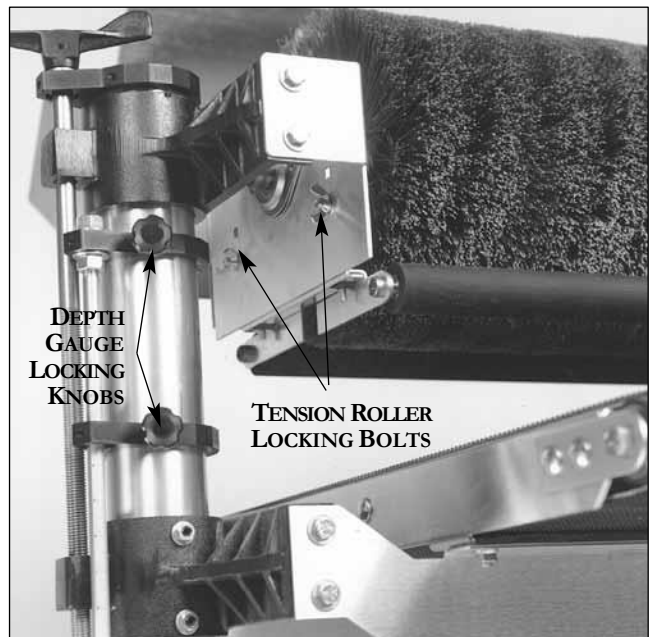

Fig. 11. Tension roller and depth gauge adjustment.
2. Set tension rollers to type of stock being sanded (See Tension Roller Adjustment below and Fig. 11)
Spring loaded infeed and outfeed Tension Rollers (Fig. 11) are provided to maintain downward pressure on stock being sanded and to prevent slippage of the stock on the feed conveyor. When properly set, the Tension Rollers should engage or raise up about 1/8" to accommodate the stock being brushed.
Flat Surfaced Stock: Set the bottom of the tension rollers even with the bottom of the brush. Loosen the four Tension Roller locking knobs (Fig. 11). Raise the table to the "0" mark on the Depth Gauge. At this position, the brush and Tension Rollers are resting on the table surface. Lock all four Tension Roller knobs. For example, to brush a 3/4" thick flat board, lower the table to 5/8" on the Depth Gauge. This allows 1/8" for Tension Roller engagement and 1/8" brush penetration.
Contoured Surface Stock: (Example: A 3/4" thick piece of molding with 3/8" of molding relief.) Loosen all four tension roller locking bolts (Fig. 11). Adjust the conveyor table 1/4" into the bristle tips (measure with a ruler from "0" mark on depth gauge.). At this position, the tension rollers are resting on the table surface and are positioned 1/4" above the bottom of the brush. Lock all four Tension Roller locking bolts. To brush the piece, lower the table to the 3/8" position on the Depth Gauge. This allows for 1/8" of tension roller engagement and 3/8" of brush penetration.
The depth gauge (see Fig. 11) measures the distance between the conveyor table and the bottom of the sanding brush. The sanding brush must be parallel to the conveyor bed surface. To calibrate the depth gauge, loosen the locking knob of the lower depth gauge casting so it rests on top of the table support casting. Raise the conveyor table until it touches the sanding brush. Then loosen the locking knob of the upper depth gauge casting and position the “0” mark of the scale even with the top of the lower depth gauge casting. Lock the upper depth gauge casting in position.